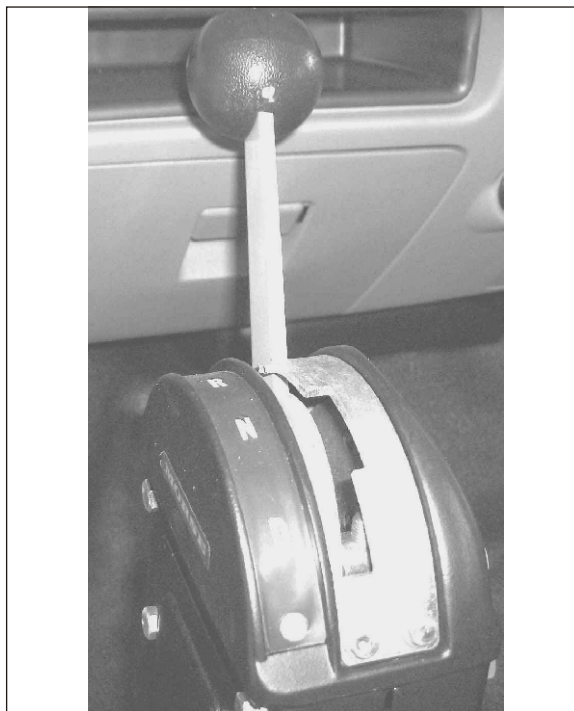

FIGURE 2. OPTIONAL FLOOR MOUNTED SHIFTER
⑨ **Shifter** - optional floor mounted shifter with P-R-N-D to shift transmission. See figure 2.